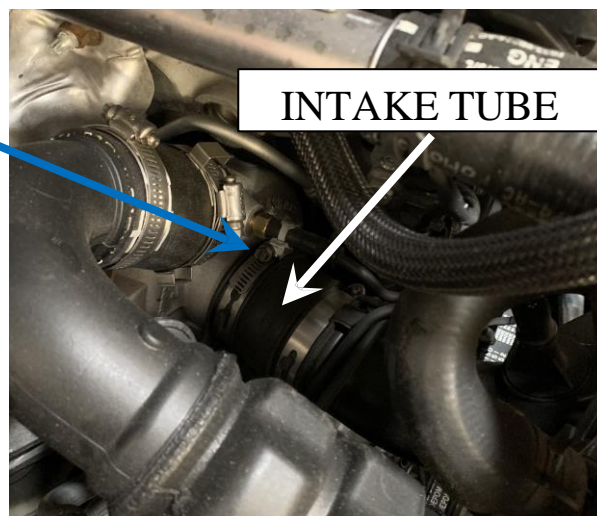

Fig. 5.
7. Locate the inlet tube worm clamp attached to the factory turbo. See Fig. 5